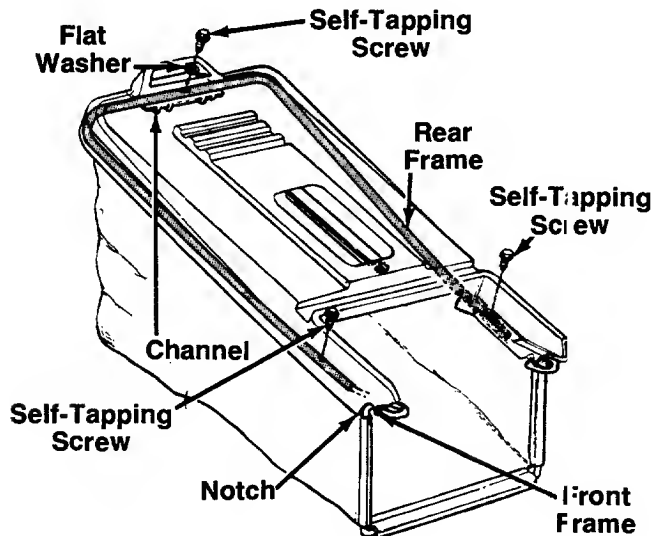

FIGURE 12.
4. Attach the hardtop cover to the grass catcher as follows. See figure 12.
- c. Attach rear of cover to frame using the flat washer and one self-tapping screw as shown in figure 12. Attach the sides of the cover to frame with the other two self-tapping screws.